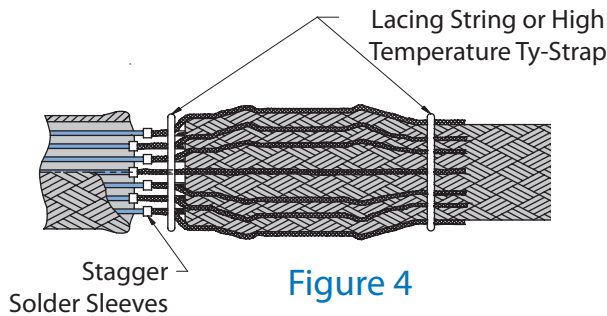
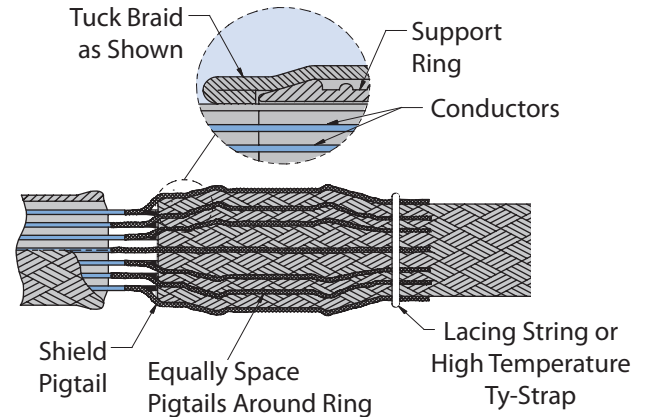

Figure 4
Figure 3
6. For pin connectors, slide the backshell forward, and hand tighten backshell to connector. Then, evenly space shield pigtails (Figure 3) or solder sleeve pigtails (Figure 4) around the shield support ring. Cut the pigtails so that their ends are approximately 1/2" beyond the end of the shield support ring.